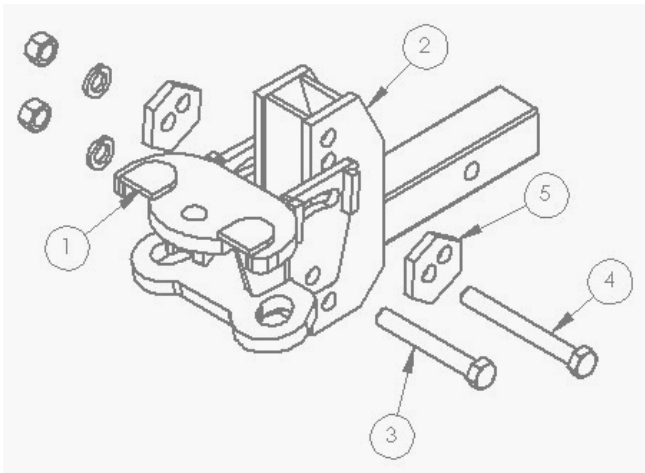

Figure 5
5. If sufficient working chain links can not be achieved (min 4 links) to set the Spring Bars at the correct height, rotate the Cam Locks (Fig 5 - 5) by removing the top bolt (Fig 5 - 4) in the Ball Mount Head (Fig 5 - 1) and loosening the lower bolt (Fig 5 - 3). Tilt the head downward until sufficient links are achieved then replace Cam Locks and bolts and nuts. If more ground clearance (on the end of the Spring Bar) is
required repeat the procedure and tilt the head (Fig 5 - 1) in the opposite direction. The towball does not have to be vertical.
CAM LOCK ADJUSTABLE BALL MOUNT (FIGURE 5) FEATURES: